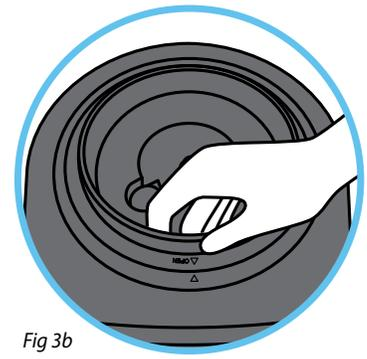

Fig 3b
- If your dispenser insert has arrows, twist the insert to align the “Open” arrows. Pull up (*Fig 3b*).